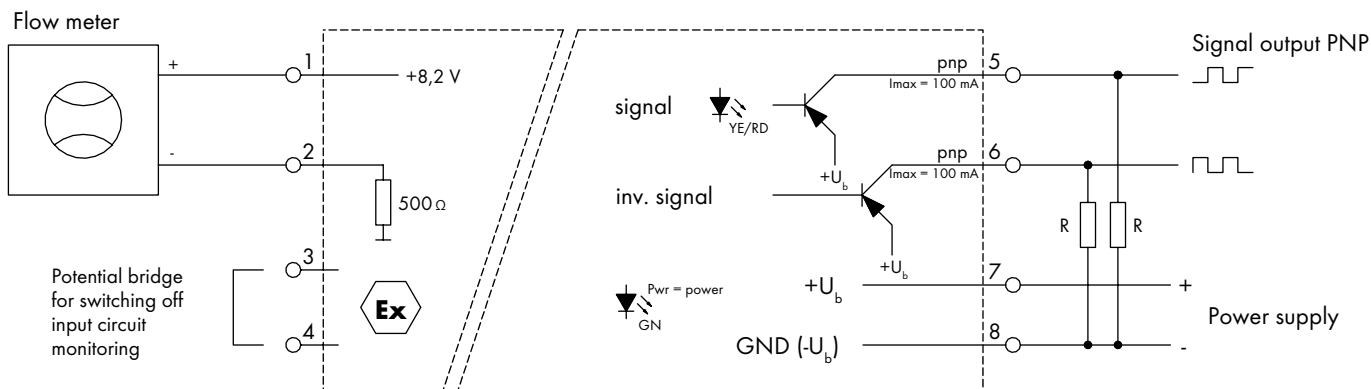

Figure 3: Circuit diagram of the isolation amplifier MK 13-P-Ex0/24 V DC/K15
**Note that the signal output of the isolation amplifier is a PNP-signal (low signal = open output; high signal =  $U_b$ ). Problems may arise, when the signal processor has high impedance inputs, especially in the higher range of flow rates. The signal edges become rounded, and the signal processor cannot detect the digital signal any more. In this case, insert a pull-down resistor with a resistance of approx. 2.2 - 4.7 k $\Omega$  parallel to the input of the signal processor (see figure 3; Resistor R).**